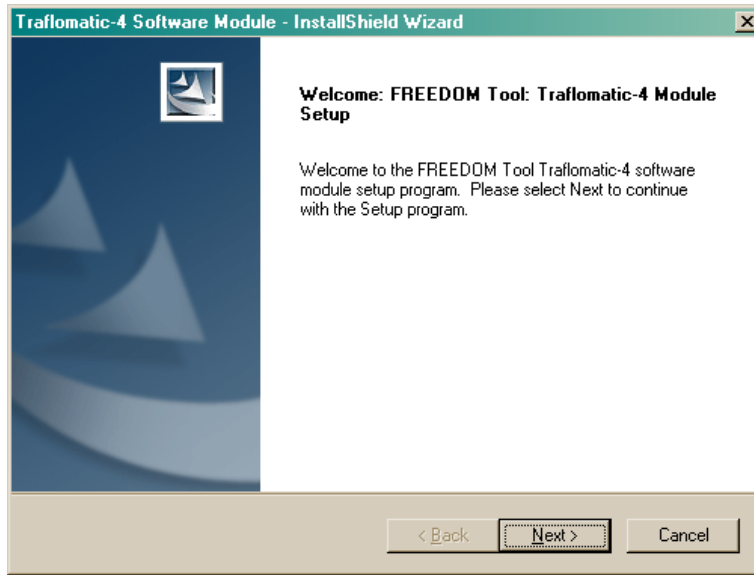

Figure 14
- After selecting the **Install** pushbutton associated with the Trafromatic-IV section of the FREEDOMWare Installer, the Install Shield Wizard will run showing a window similar to the one shown in Figure 14. To continue with the setup of the Trafromatic-IV software module simply click the **Next** pushbutton with the PC's pointing device.